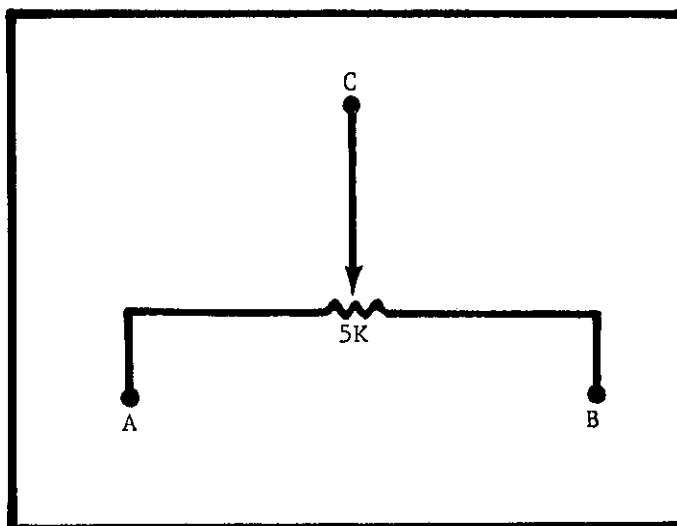

FIGURE 17. Remote Mounted Zero Control. Letters refer to terminals in Figure 2.
c. External zero control connections (Figure 17).
2. Connect the external potentiometer to terminals A, B and C (Figure 2). Refer to Figure 17.